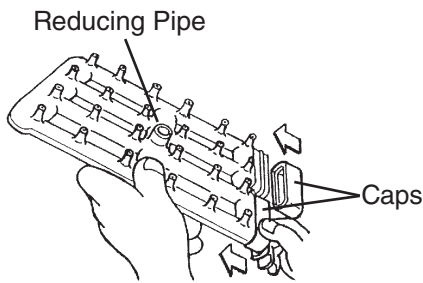

**Fig. 42**
- 7) Disconnect the discharge tube from the spray assembly, then slide out the spray assembly. See Fig. 42.